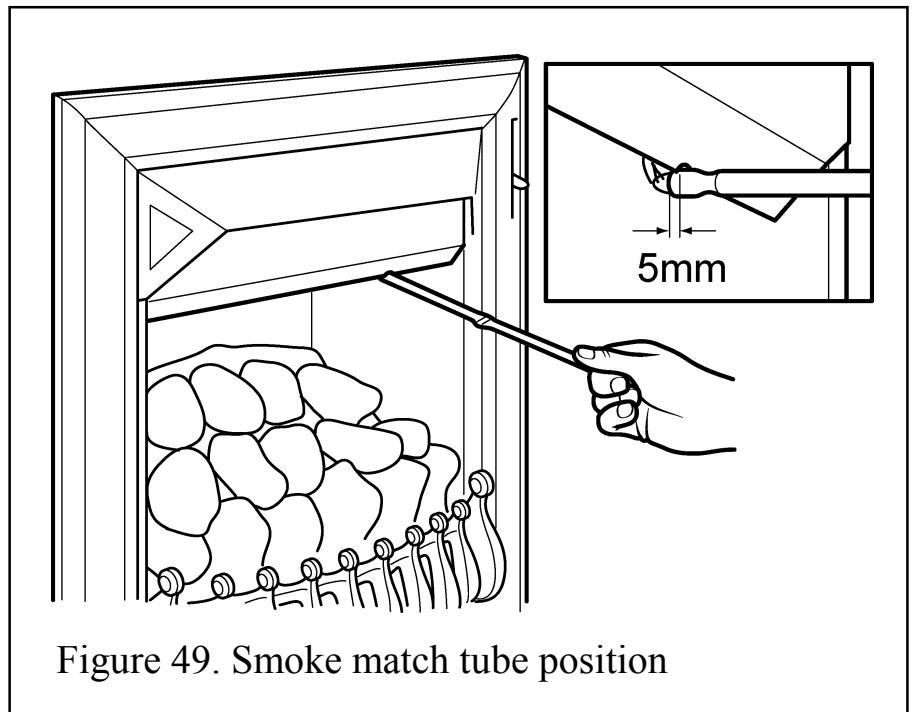

Figure 49. Smoke match tube position
4. The smoke match should be placed horizontally into the convection box at the right hand side. There is a notch in the black cross member. Insert the tube so that the neck of its flared end is 5mm passed and in contact the cross member - See figure 49.